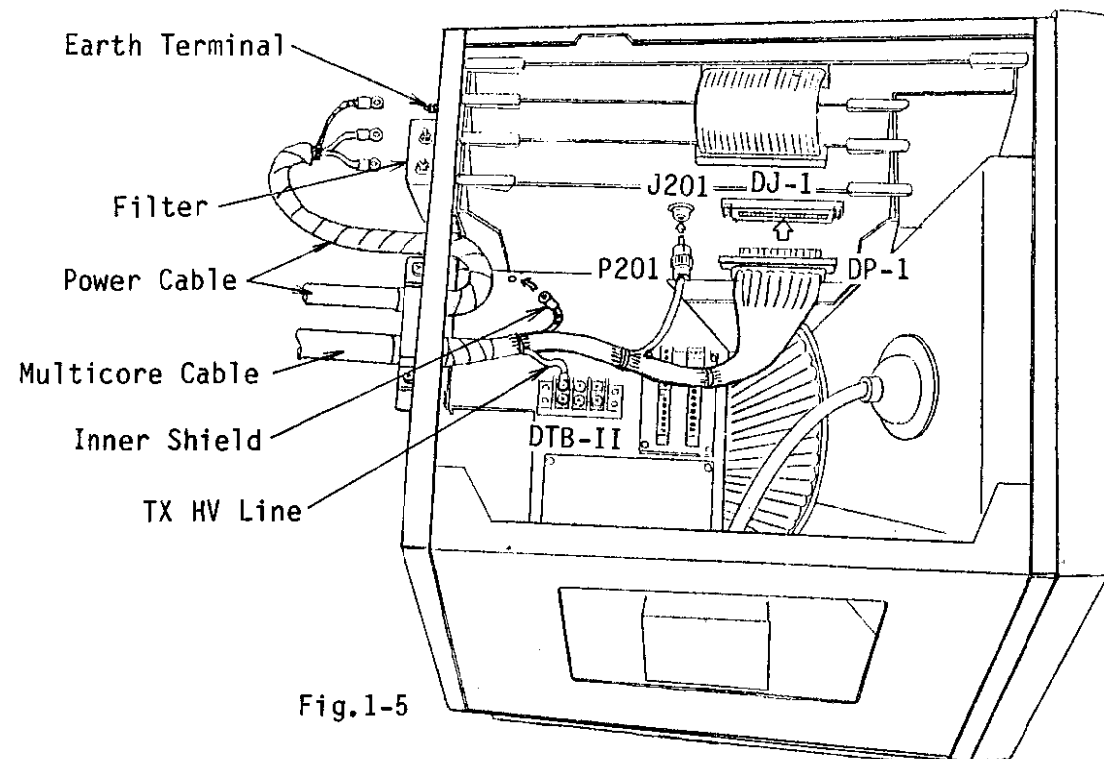

Fig.1-5
- 6) Dress the end of the multicore cable through the cutout in the rear panel, and connect 28P plug (DP-1), coax plug (P201) and the flying lead HV wire with crimp-on lug to 28P jack (DJ-1), coax jack (J201) on the interface board, and terminal #5 of DTB-II. See Fig.1-5.
- 7) Ground the inner shield of the multicore cable to the display chassis as shown in Fig.1-5.
- 8) Connect the power cable to the terminals DTB-I on the line filter; positive core to #1 and negative core to #2. Connect the shield of the power cable to the earth terminal above the filter. See Fig.1-4 and Fig.1-5.